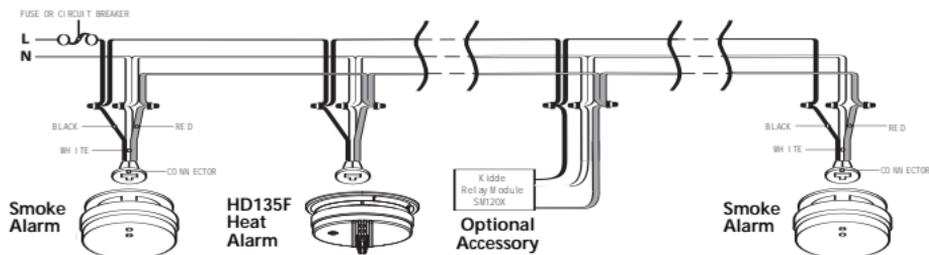

FIGURE 4 INTERCONNECT WIRING DIAGRAM
- Figure 4 illustrates interconnection wiring. Improper connection will result in damage to the alarm, failure to operate, or a shock hazard.